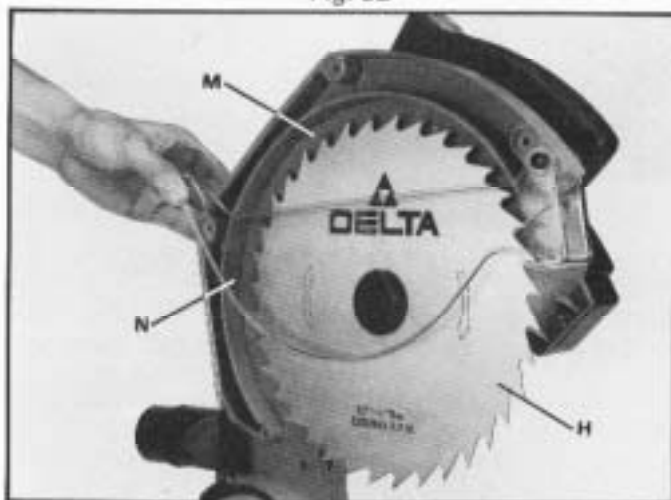

Fig. 8C
7. Make certain the inside surface (M) Fig. 8C, of blade guard is parallel with the blade (H) and that the movable see-thru guard (N) moves up and down without interference.